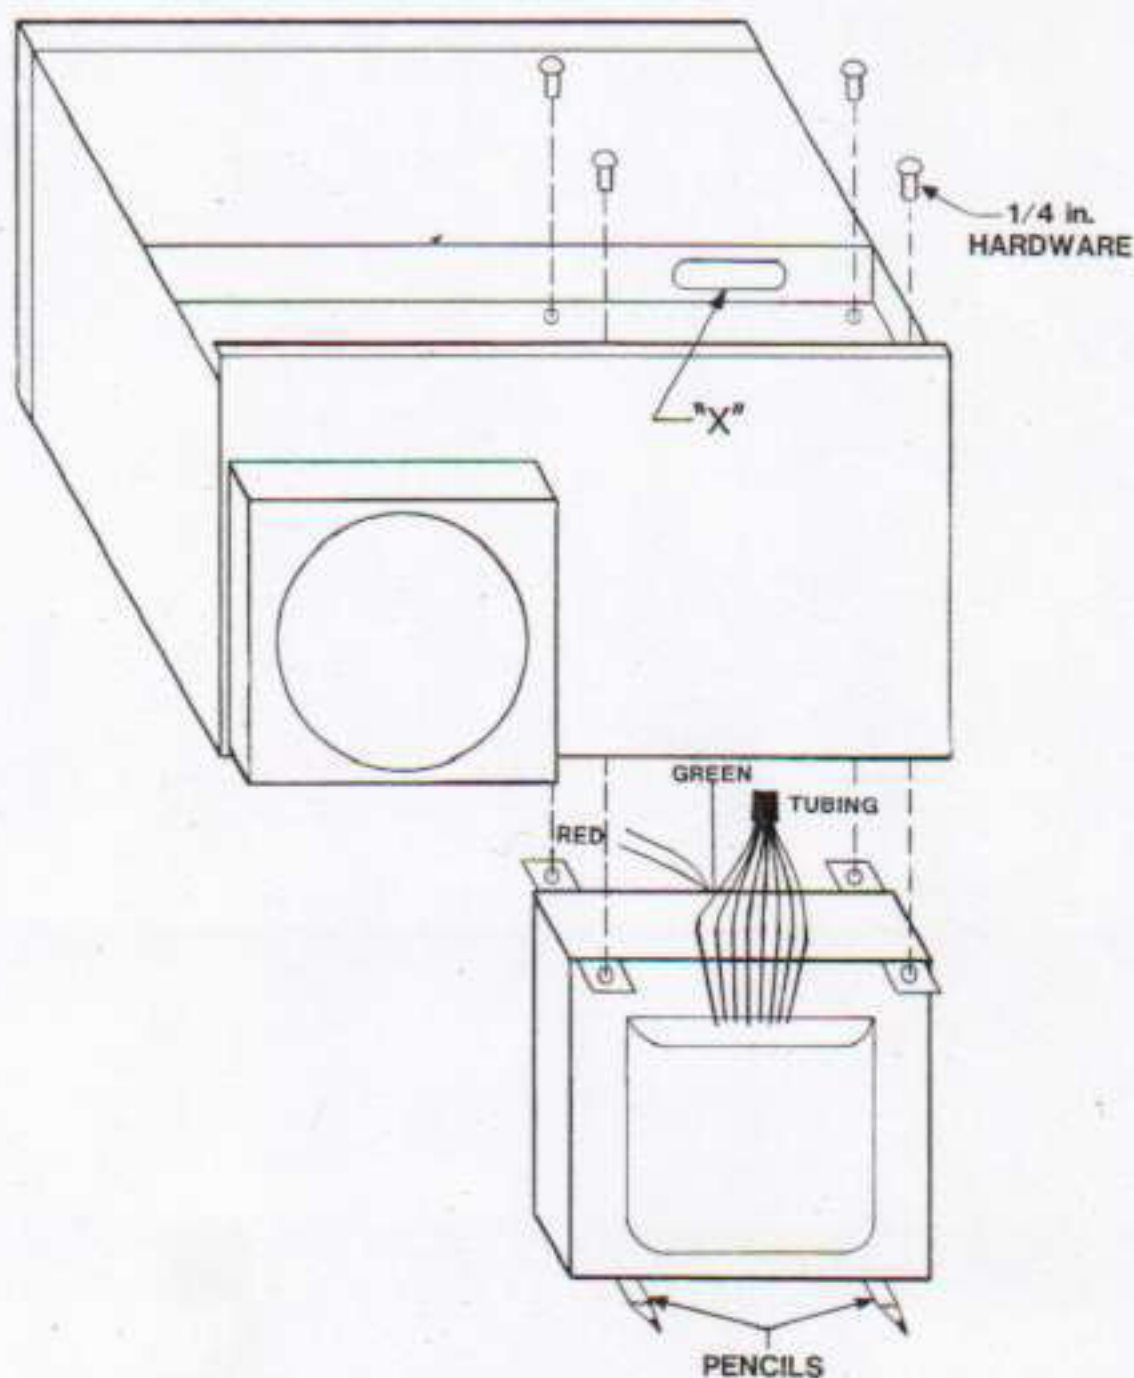

Figure 2-1 Transformer Installation
- d. Place the power transformer upside down (leads extending up) on the table in front of you. The two red wires and single green wire should point away from you. Support the transformer a small distance above the table top with two pencils or similar spacer as shown in figure 2-1.